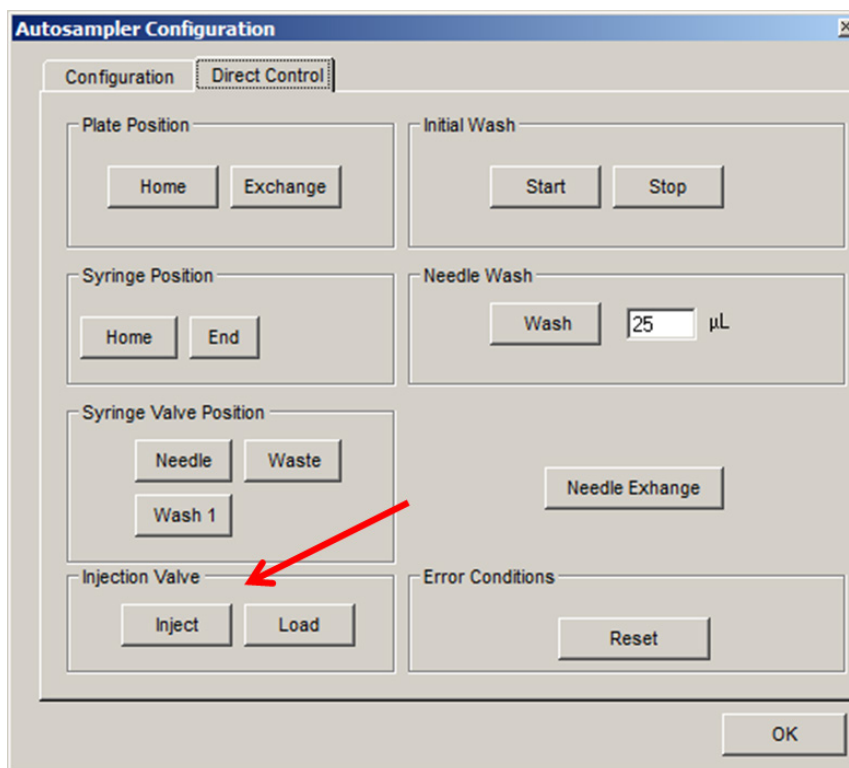

Figure D-9 Autosampler Configuration Dialog Indicating the Injection Valve Position Buttons
- b. In the **Initial Wash** group, click **Start** (Figure D-9).
- b. In the **Injection Valve** group, click **Inject** then **Load** (Figure D-9). Repeat until the valve has been switched ten times.
15. In the **Initial Wash** group, click **Start** (Figure D-9) to perform an initial wash.
3. Click **Inject** in the **Autosampler Configuration** dialog to switch the valve to the inject position (Figure D-9).